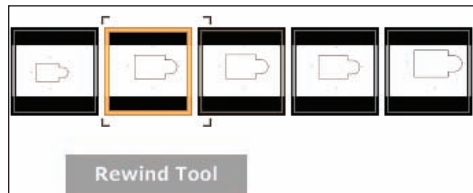

FIGURE 1.38 Because Revit does not include zoom commands in the Undo function, you can rewind to find previous views.
3. Now click and hold Rewind in the steering wheel. You can now find an older view, as shown in Figure 1.38.